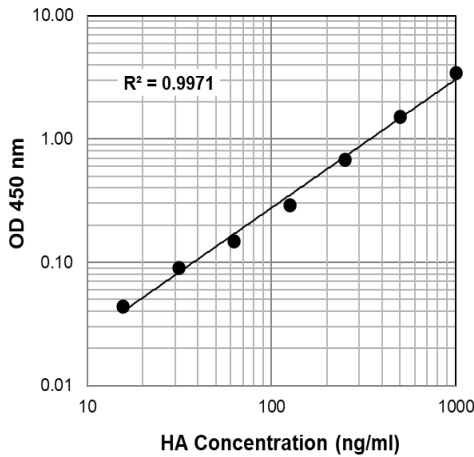

Figure 1 - A Typical Standard Curve for the HA Sandwich Assay Kit
1. Average the duplicate OD values for the standards, blanks (B), and test samples.
3. Plot the OD values of the standards against the ng/ml of HA standard. Using a log/log plot will linearize the data. Figure 1 shows an example of a standard curve where the standard range is 16 to 1000 ng/ml.